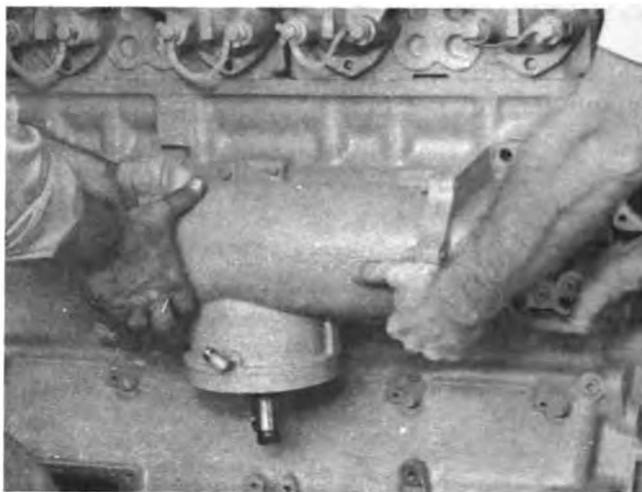

Fig. 0-15. Remove The Oil Cooler Housing.
6. Remove the capscrews, lockwashers and flat-washers that hold the support for the oil cooler to the cylinder block. Install a dowel into one of the capscrew holes to hold the support until all the capscrews are removed. Remove the oil cooler, Fig. 0-15. Remove the dowel.